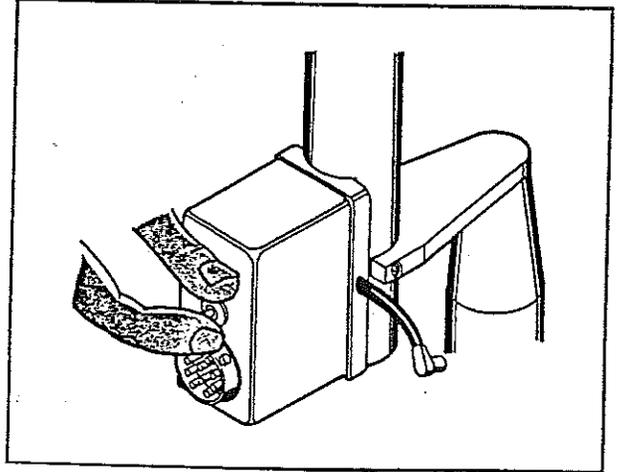

Fig. 15
- (d) Unscrew the bezel surrounding the lamp On/Off Switch, (Fig. 15) and withdraw the cover box carefully.